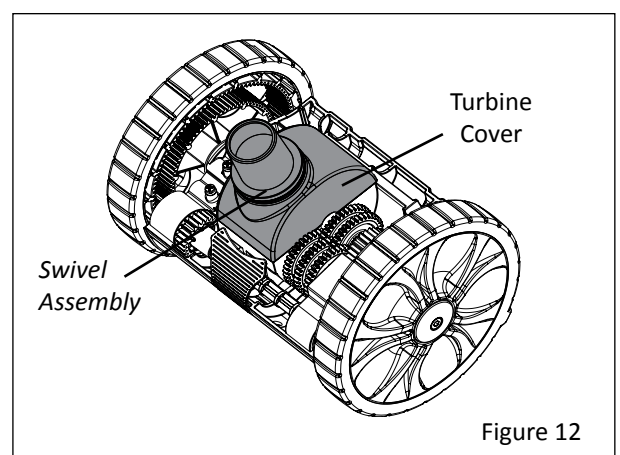

Figure 12
4. Pull the turbine cover straight up and off of the cleaner body. Set the turbine cover aside. See **Figure 12**.
6. Replace the turbine cover with the swivel assembly oriented towards the front of the cleaner. See **Figure 12**.